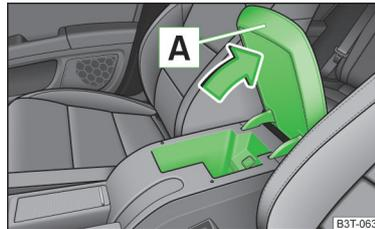

Fig. 88 Armrest: Stowage compartment
- Pull and open the cover of the armrest using the handle **A** in the direction of the arrow » Fig. 88. ▶
➤ Open the lid to the stop, only then can it be folded downwards and against the direction of the arrow » Fig. 88.